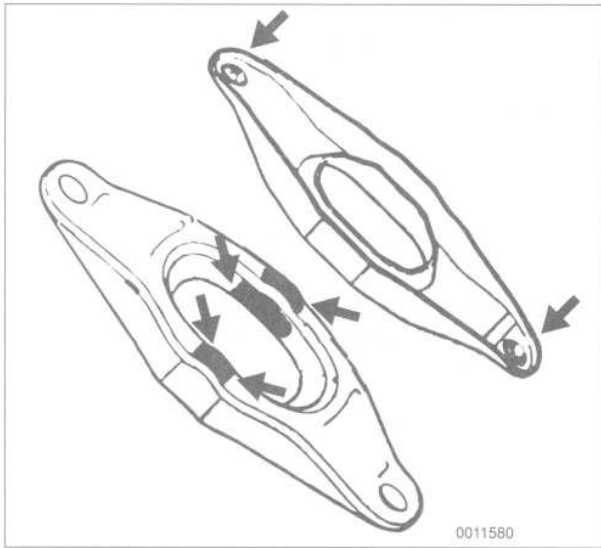

Fig. 7. Contact points on release lever to be greased (**arrows**).
12. Lightly grease release lever bearing contact points. See Fig. 7. Install release lever.